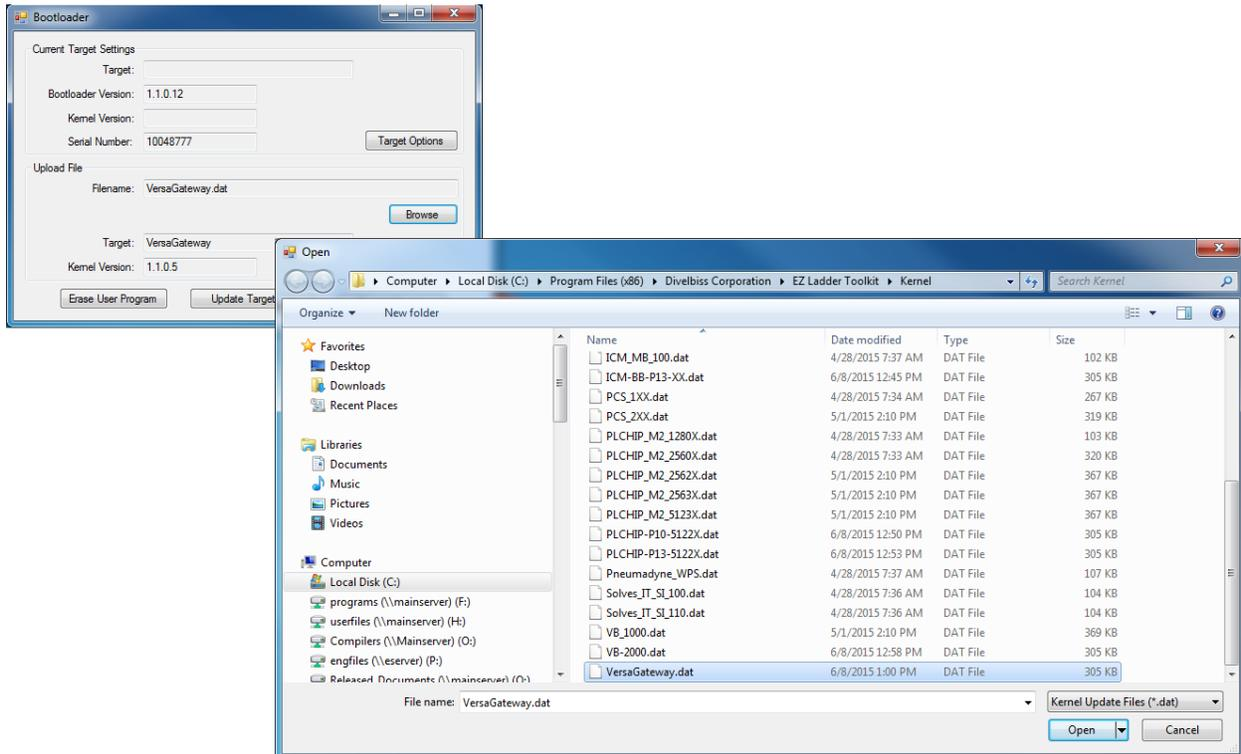

Figure 1-3 - Browse to Kernel
7. Click the **BROWSE** button and select the target's kernel (by part number) located by default at C:\Program Files\EZ Ladder\Kernel\. Refer to Figure 1-3.